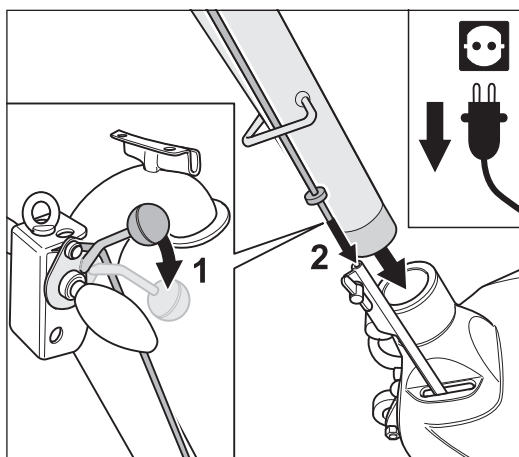

Fig. 56 When inserting the guide tube, make sure that the upper rod of the lowering mechanism feeds in correctly!
- 1 Press the lowering lever at the handle downwards (Fig. 56, 1).
- 2 Insert the guide tube into the opening in the machine housing and at the same time insert the upper rod into the lower rod (Fig. 56, 2).